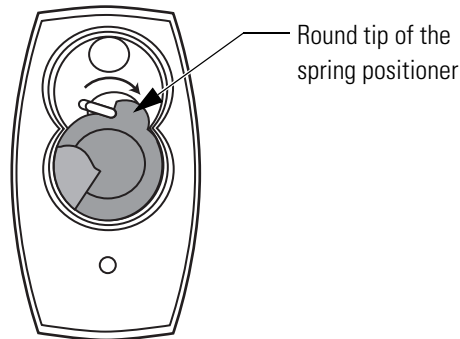

Figure 2.16 Pushing the locking cam into position (bottom view)
- Using a punch or screwdriver, push on the round tip of the spring positioner until the locking cam snaps clockwise into the slot, as shown in Figure 2.16.